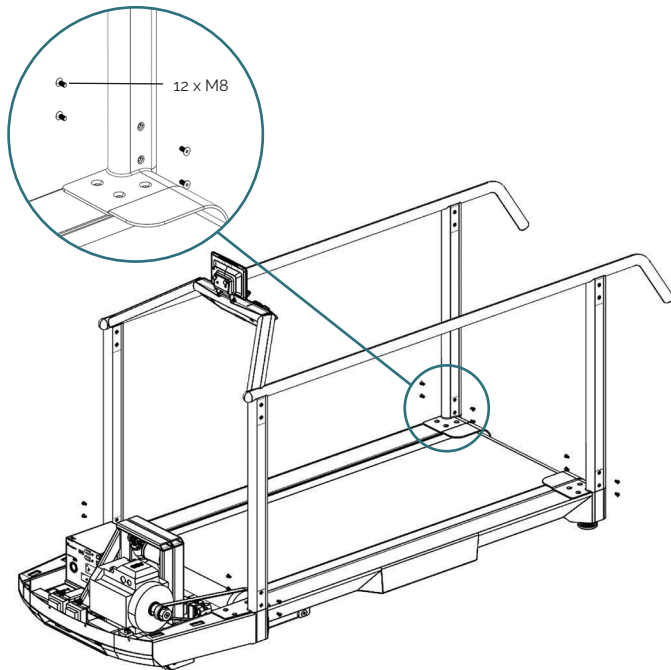

FIGURE 3
4. Remove 16 M8 screws, see fig: 3